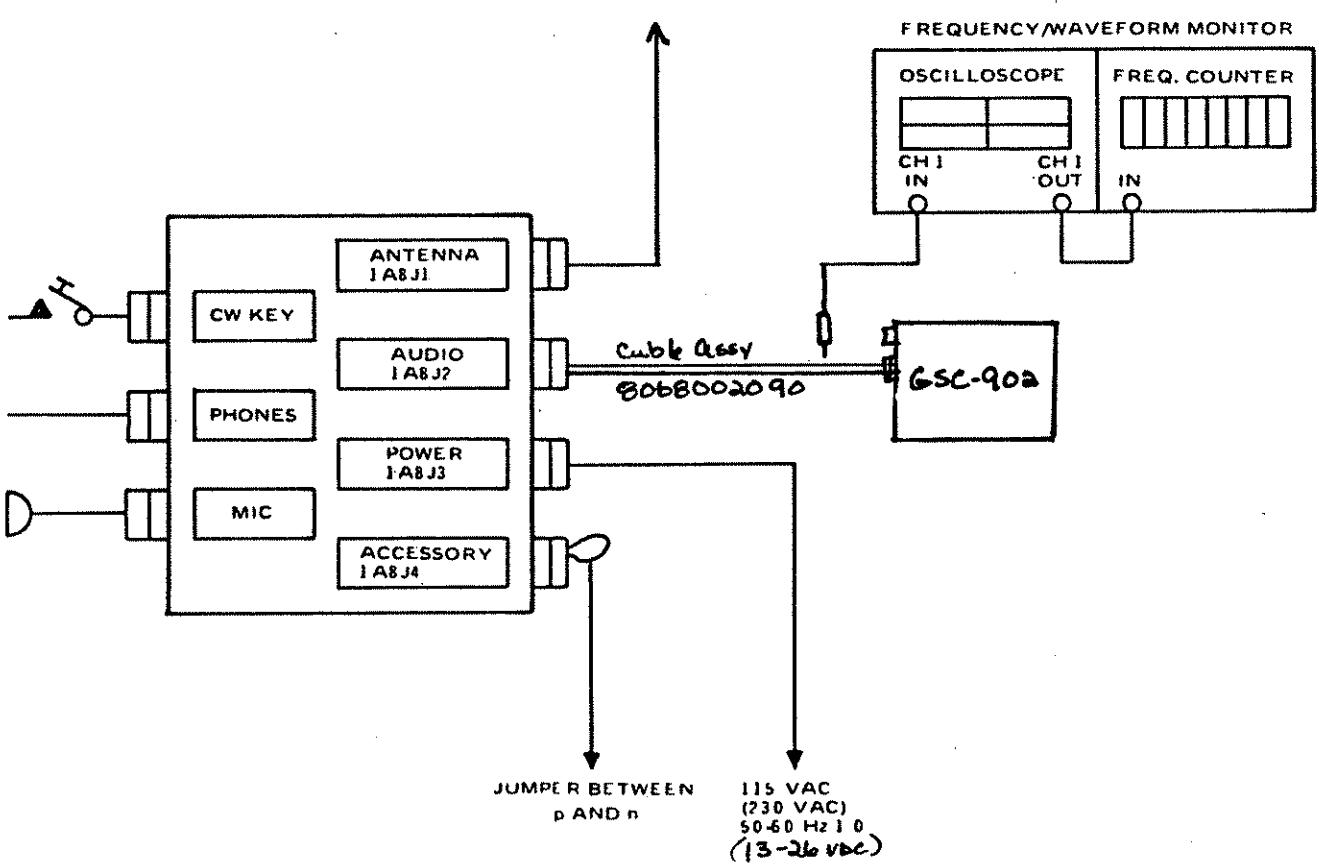

Figure 5.1 STATIC VOLTAGE CHECK
Refer to Figure 5.1.
- b) Prepare the test set-up shown in Figure 5.1.